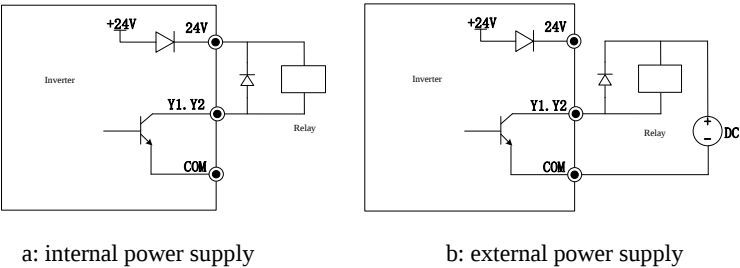

Figure 3-18 Wiring of Multi-function Output Terminal
1. An antiparallel diode must be added, in order to use an internal power supply (see Figure 3-18-a).
Communication terminals A+ and A- are RS485 communication interfaces of inverter. Realize networking control of host controller (PLC or PLC controller) and inverter by connecting to host controller for communication. RS485, RS485/RS232 converter and EM500 inverter are wired as shown in Figures 3-18, 3-19 and 3-20.